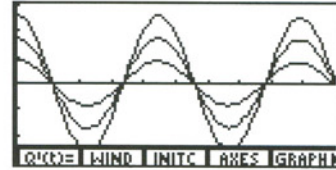

Figure 7.7
4. Display the plot of the solutions. (Figure 7.7)